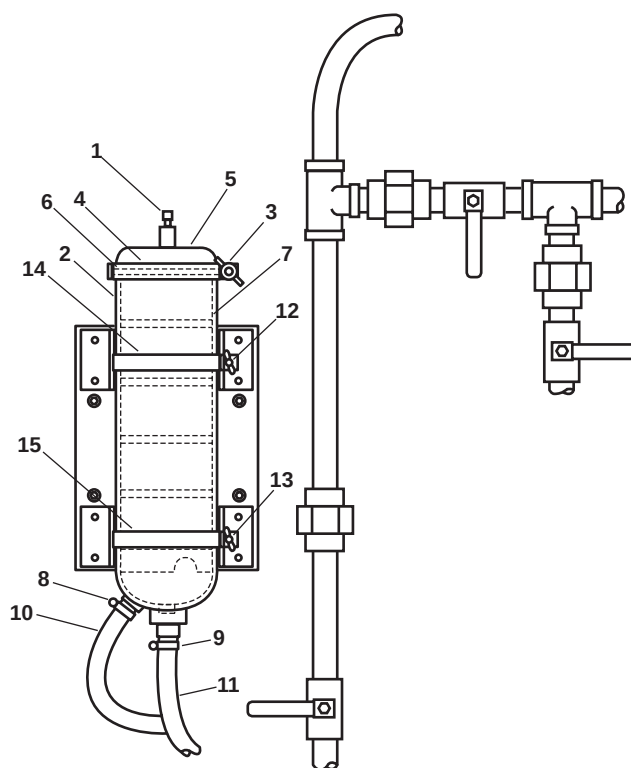

Figure 2. Brominator Feeder Assembly
2. Press the AIR-BLEEDER button (figure 2, item 1) on the feeder vessel (figure 2, item 2) and allow the water to drain.
3. Loosen the T-nut (figure 2, item 3) and remove the lid retaining clamp (figure 2, item 4).
4. Remove the lid (figure 2, item 5) and discard the gasket (figure 2, item 6).
5. Remove the bromine feeder cartridge (figure 2, item 7) and allow the water to drain from the cartridge.
6. Place the bromine feeder cartridge (figure 2, item 7) in a suitable container, mark the container "PARTIALLY EX-HAUSTED CARTRIDGE," and record the date.
1. Install the bromine feeder cartridge (figure 2, item 7) in feeder vessel (figure 2, item 2).
2. Install a new gasket (figure 2, item 6) on the lid (figure 2, item 5) and install the lid.
3. Install the lid retaining clamp (figure 2, item 4) and secure it with the T-nut (figure 2, item 3).